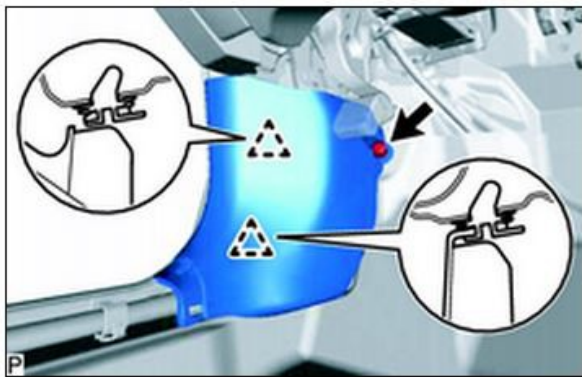

Figure 6
9. Remove the clip. Disengage the two clips and remove the cowl side trim sub-assembly, LH. Figure 6.